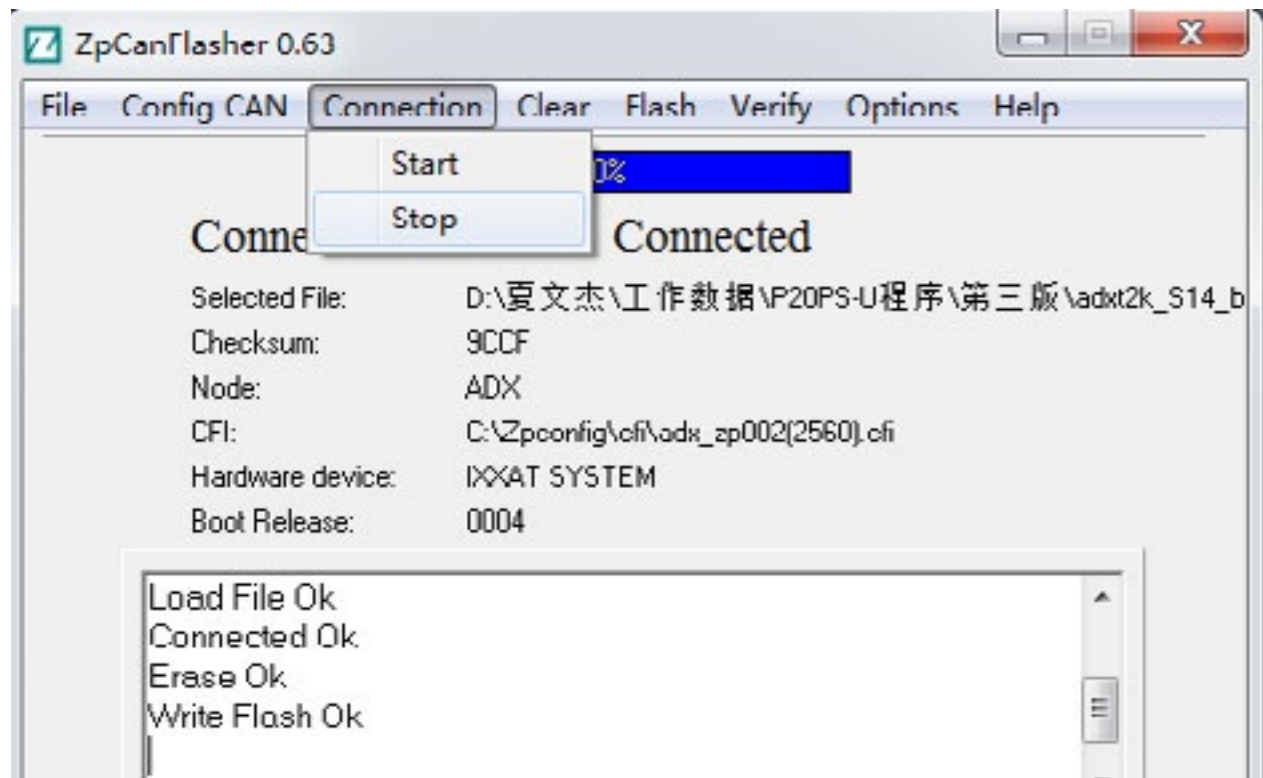

Fig.1.1.17
10. Finally click "Connection" → "stop", as shown in Fig.1.1.17.